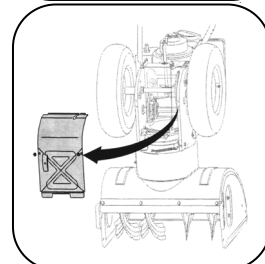

Figure 15
2. Carefully pivot the snow thrower up and forward so that it rests on the auger housing. Remove the frame cover from the underside of the snow thrower by removing four self-tapping screws which secure it. See Figure 15.